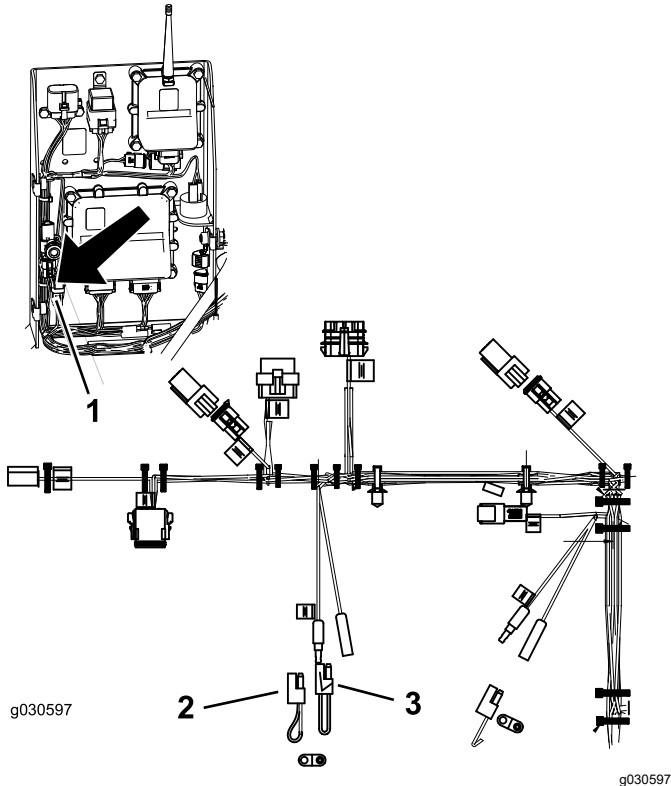

Figure 30
2. Unplug the 2 wire connections from the pigtail connector shown in Figure 30.